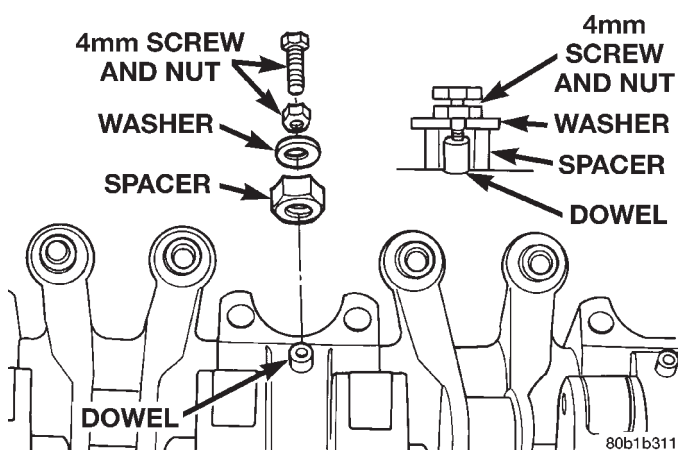

Fig. 55 Rocker Arms and Shaft—Disassembly
(1) Remove dowel pin using a 4 mm screw, nut, spacer, and washer installed into the pin (Fig. 55). Tighten the screw into the pin, then loosen the nut on the screw. This will pull the dowel out of the shaft support. Do not reuse dowel pins. Remove the rocker arms and pedestals in order.
(2) Check the rocker arm mounting portion of the shafts for wear or damage. Replace if damaged or heavily worn.
(3) Check shaft oil holes for clogging with small wire, clean as required.